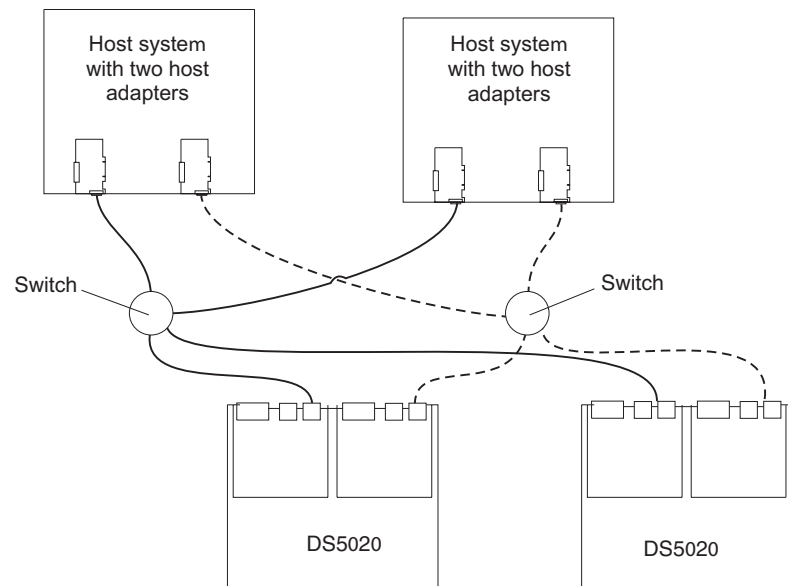

Figure 59. Example of two storage subsystems in a dual SAN environment
- Two storage subsystems in a dual SAN fabric configuration, as shown in Figure 59 on page 89
In Figure 59, the Fibre Channel switches are not connected together. Each switch forms its own SAN fabric.